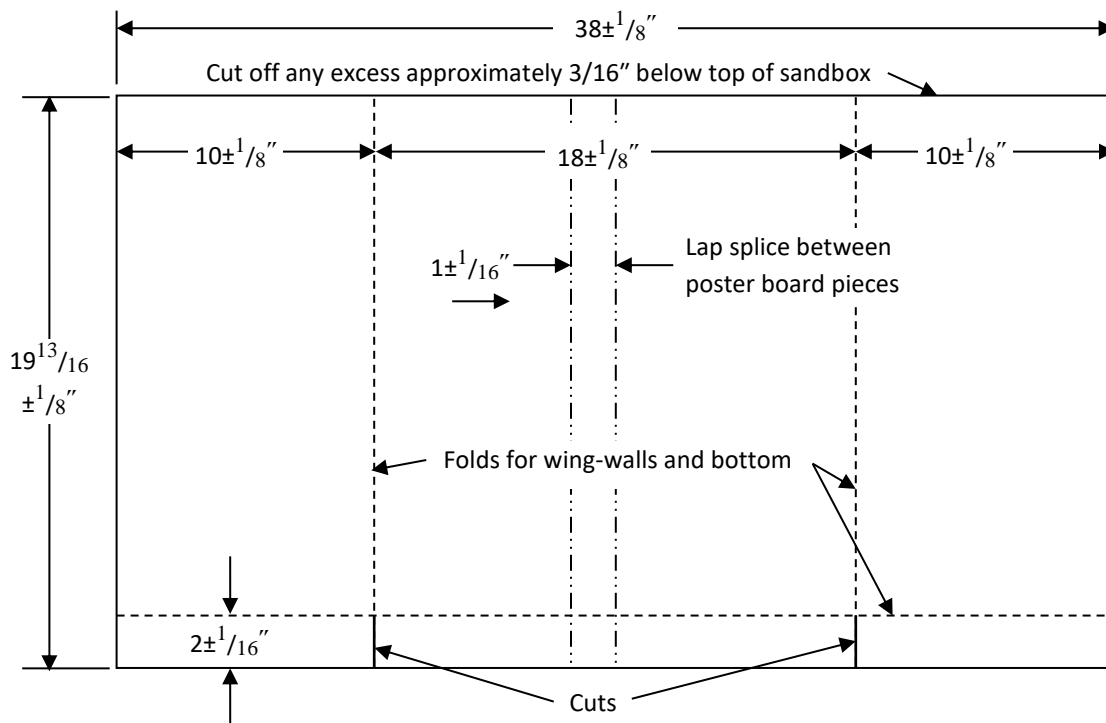

Figure 4: Dimensions of the poster board wall facing (not to scale)
- Facing – Two pieces of poster board must be joined with a lap splice. See Figure 4 for dimensions.
- a) **Reinforcement Fabrication Stage** – Each team will be provided with a single sheet of 60 lb kraft paper approximately 24" × 24". The team must fabricate all their reinforcing elements from this sheet using authorized construction tools. Fifteen (15) minutes will be allotted for this stage. Teams will be penalized for time exceeding the time limit. After all reinforcing elements are fabricated, excess material will be disposed of and the judges will weigh the reinforcing elements to the nearest 0.01 grams.
- b) **Wall Assembly Stage** – After each team's reinforcing elements have been fabricated and weighed, the team will be provided with two sheets of poster-board (22" × 28") and a roll of packaging tape. The team must assemble their wall using these materials and authorized construction tools. Dimensions for the wall facing are shown in Figure 4.
- i) Tape may be used for only two purposes: 1) to join the two poster-board sheets along the lap splice (Figure 4) to form the wall facing and 2) to attach reinforcement to wall facing. The poster-board sheets must be joined using a single lap splice not exceeding 1" to form the wall facing. A single continuous strip of tape may be used on each side of the poster-board to join the poster-board sheets. The tape must be in contact with only the two poster-board sheets. No other adhesives may be used to join the poster-boards.
- iv) The wall should be trial-fitted to the sandbox during this stage. Any portion of the wall that rises above an imaginary line that is 3/16" below the top of the sandbox must be trimmed off. The assembly stage is complete when the facing material is properly folded and trimmed, all the reinforcing elements are attached to the facing, and the wall is placed in the sandbox. No sand is added to the box in this stage. Fifteen (15) minutes will be allotted for this stage. Teams will be penalized for time exceeding the time limit. Judges will check to ensure the wall is properly assembled.